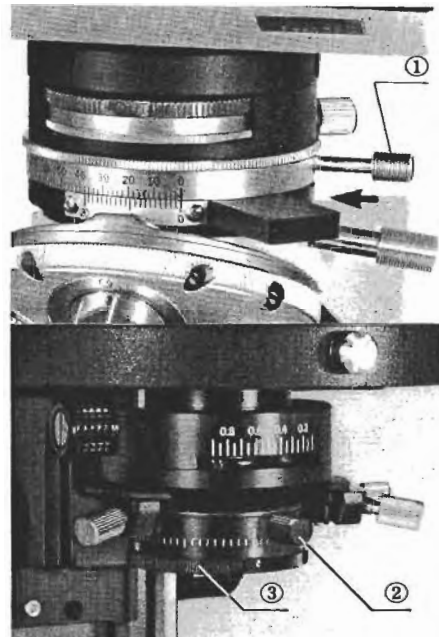

Fig. 12
6) Push analyzer ① into the light path, and make sure that both polarizer and analyzer are set at position "0" to attain the "crossed filter" position. Then loosen the clamping screw ② of the polarizer. (Fig. 12)
7) Remove the specimen out of the light path so that a transparent area comes into the light path. Keeping the polarizer at the "0" position, rotate the polarizer rotation ring ③ until the optimum extinction is obtained, then clamp the ring. (Fig. 12)